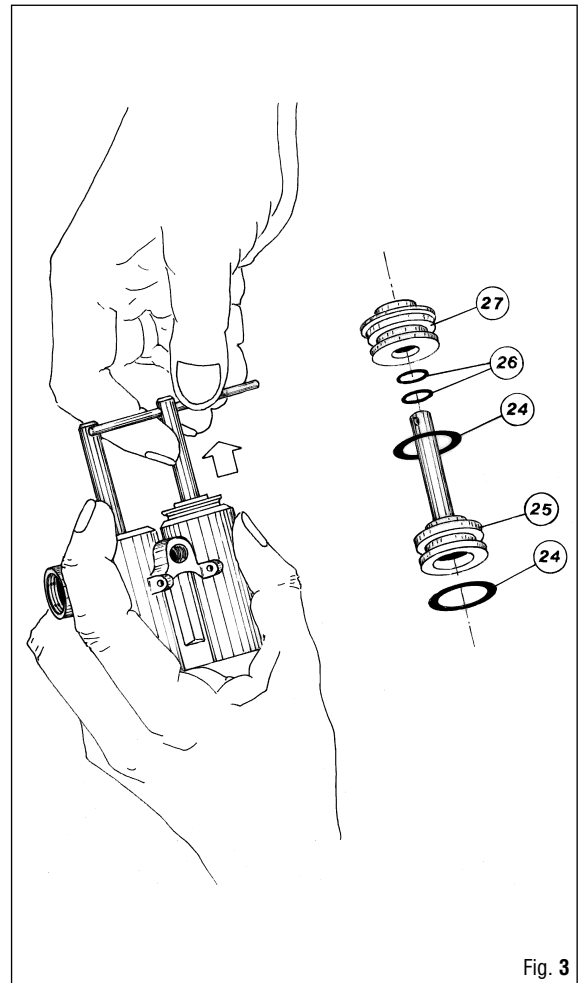

Fig. 3
16. Remove the piston (25) from the piston body (23) (See Fig. 3).
17. Remove the piston cap (27) from the piston (25) (See Fig. 3).
18. Remove the O-Ring (24) from the head of the piston (25) (See Fig. 3).
19. Disassemble the outer O-ring (24) and the 2 inner O-Rings (26) from the piston cap (27). (See Fig. 3).
2. Insert the spring (12) and ball (11) inside the valve connector (13).
3. Using the 7-mm and 14-mm wrenches B-18, lock down the valve connector (13) into the quick coupling assembly (7) (See Fig. 3).